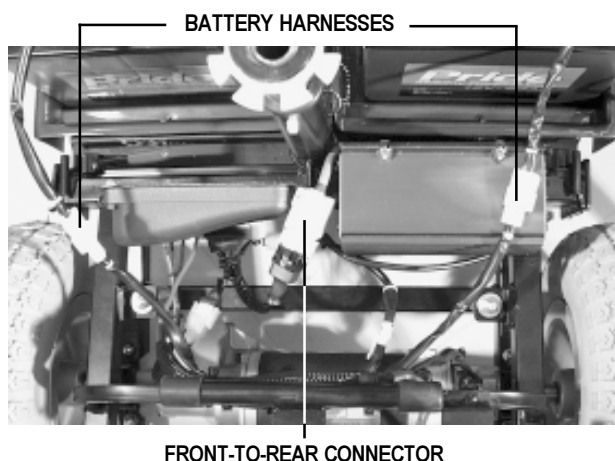

Figure 13. Cable Connections
5. Unplug both battery harnesses. See figure 13.
7. Unplug the large, white, 9-pin front-to-rear connector that attaches the front control console harness to the electronic controller module harness. See figure 13.